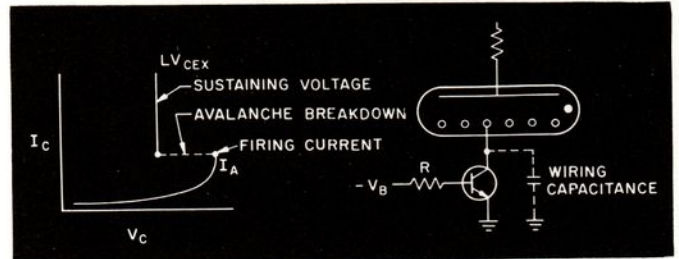

Fig. 36A—Typical Voltage Breakdown Characteristic Triple-Diffused Silicon Transistor
4. The transistor should not exhibit avalanche breakdown within the operating conditions (see Figure 36A). This is an important consideration when silicon transistors are used. Collector currents as low as 100 microamperes may cause a unit to "fire" to a lower voltage. This lower voltage may be called the sustaining voltage. If the transistor will fire under the operating conditions, the switch may act as a free running sawtooth generator (see Figure 36A, B, & C). The amplitude of the sawtooth will depend on the difference between BVCEX and LVCEX. To avoid this condition, transistors should be selected to have firing currents higher than 500 microamperes.